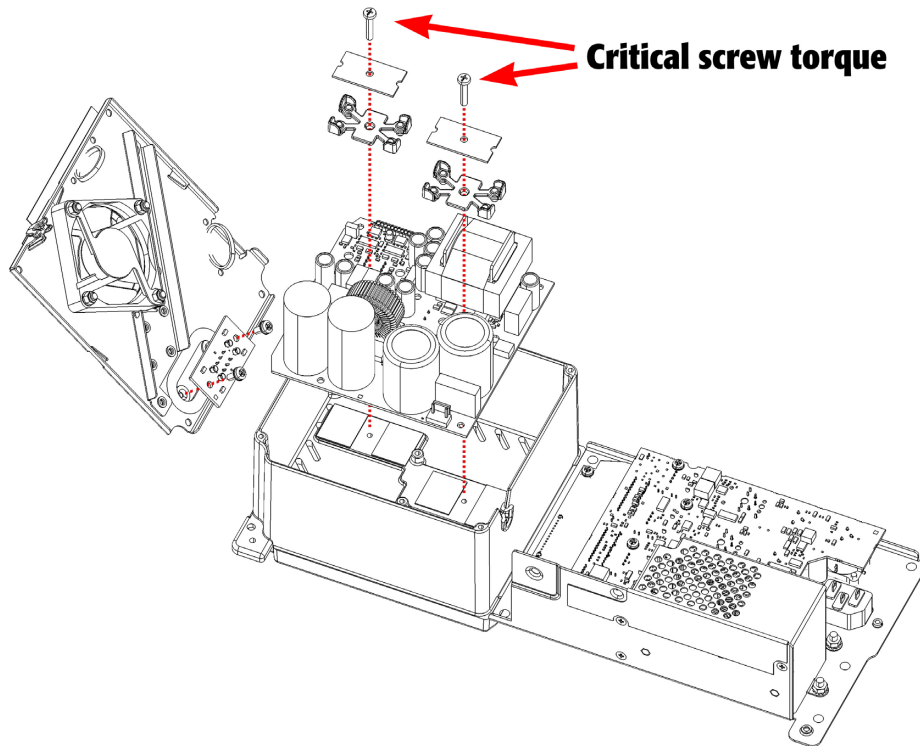

Figure 6.2.7 - AMP/PSU removal and installation, including output board attached to metal cover.
11. Remove the 2 long machine screws, 2 metal springs, and 2 plastic clamps. See Figure 6.2.7.